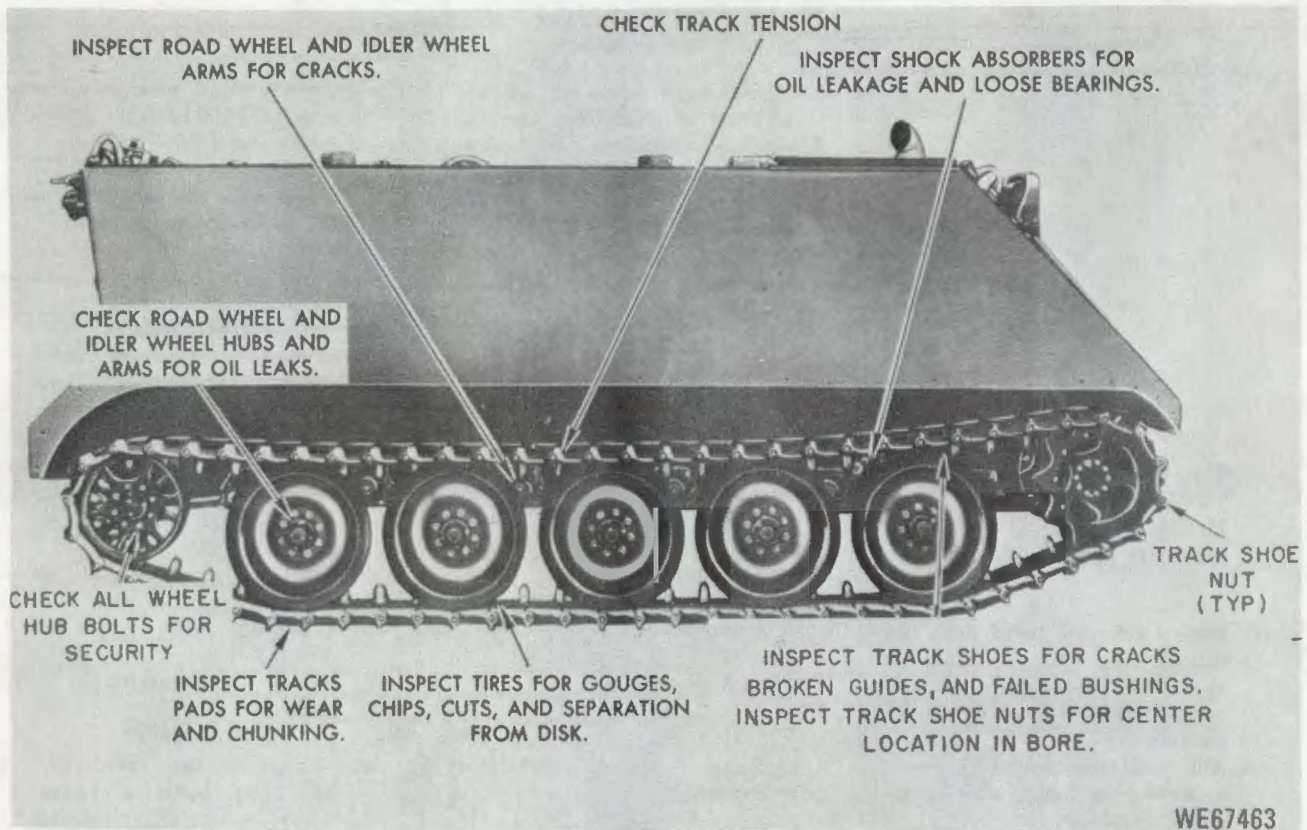

Figure 3-1. Suspension inspection points.
tension and replacement of worn or damaged track shoes. See figure 3-1 for suspension points to inspect during regular preventive maintenance services. Services performed also include cleaning the air cleaner filter, cleaning the vent holes and screens in the bilge pumps, and maintenance of vehicle after water operation.
(1) ~~Checking track tension~~ (fig 3-1 and 3-2).